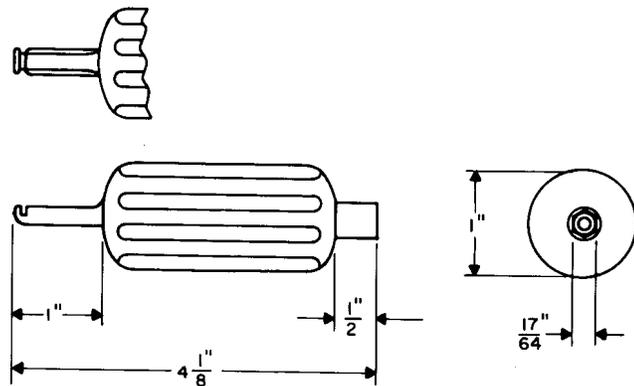

Fig. 14—447A Protector Wrench and Adjuster Tool
2.14 **447A:** The 447A tool (Fig. 14) is a protector wrench and adjuster for use on protector mountings and 444-type jacks. The 447A tool replaces the 28 tool.